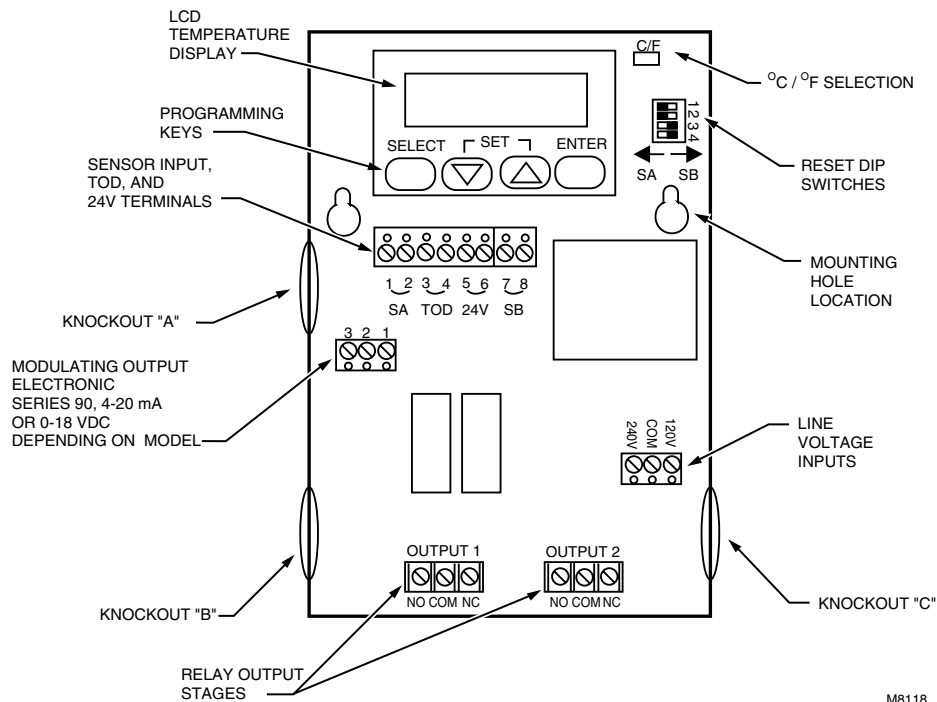

Fig. 5. Feature locations.
Mounts on any suitable horizontal or vertical surface. (See Fig. 5 for mounting hole locations.)
- 1 Set the reset direction determined previously by setting the DIP switch in the upper right corner of the T775 (see Fig. 5). Switch 1 should be open to reset the control point *up* and *closed* to reset the control point *down*.